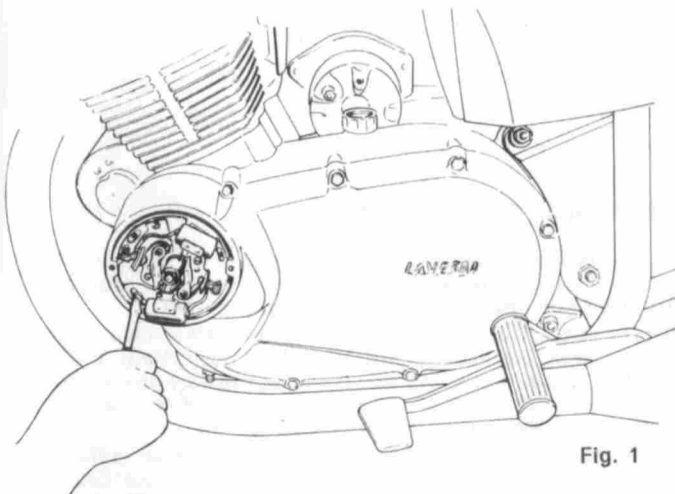

Fig. 1
Remove the protecting cover (Fig. 1) and check the gap of the two points, which must be 0.4 mm.
- 4) Rotate the driving shaft clockwise (looking at it on the starter side) till the letters PM (= DEAD CENTRE) appearing on the pulley coincide with the mark stamped on the crankcase (see Fig. 47); at this moment, the lamp must light up. If the lamp should light up before or after the moment when the two reference marks coincide, slacken the three screws which fix the contact plate (see Fig. 1), rotate either clockwise or anticlockwise, according to the necessity of retarding or advancing the engine, then tighten up the screws.
- 2) Detach the contact plate by unscrewing the three screws (Fig. 1).